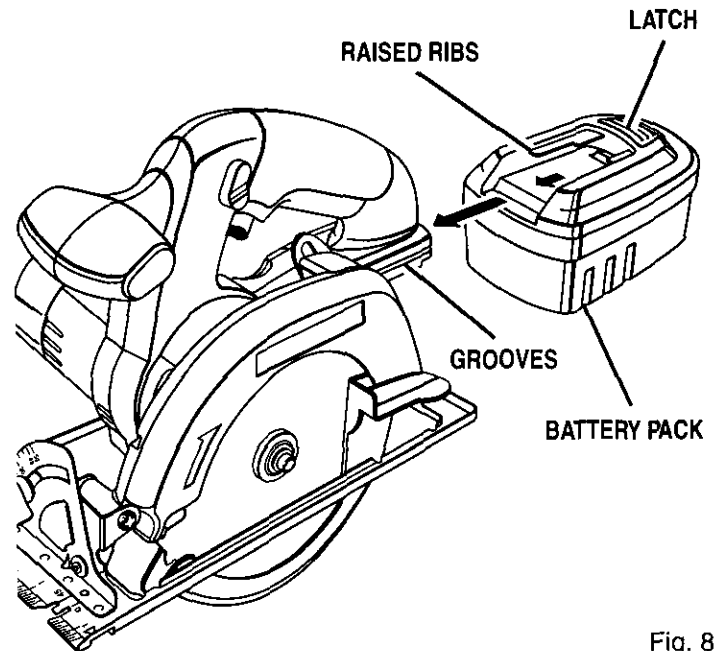

Fig. 8
- Position saw as shown in figure 8, depress spindle lock button, and remove blade screw.
- Remove outer blade washer. See Figure 8.
See Figure 8.
- Align raised ribs on battery pack with grooves on bottom of saw, then attach battery pack to saw as shown in figure 8.